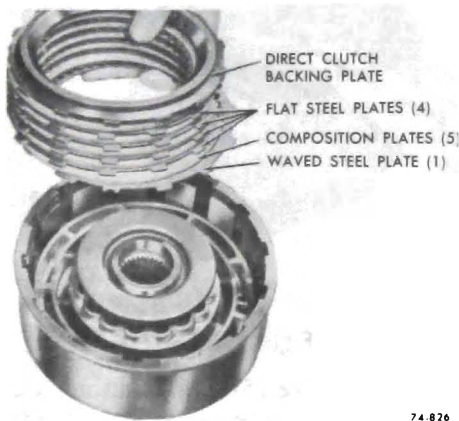

Figure 76-673
4. Remove direct clutch backing plate, (five) 5 composition faced and (five) 5 steel clutch plates. See Figure 76-673.